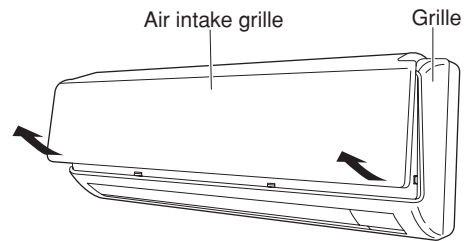

Fig. 16a
- (1) Grasp both ends of the air intake grille, and remove it by opening towards the front and pulling towards you. (Fig. 16a)